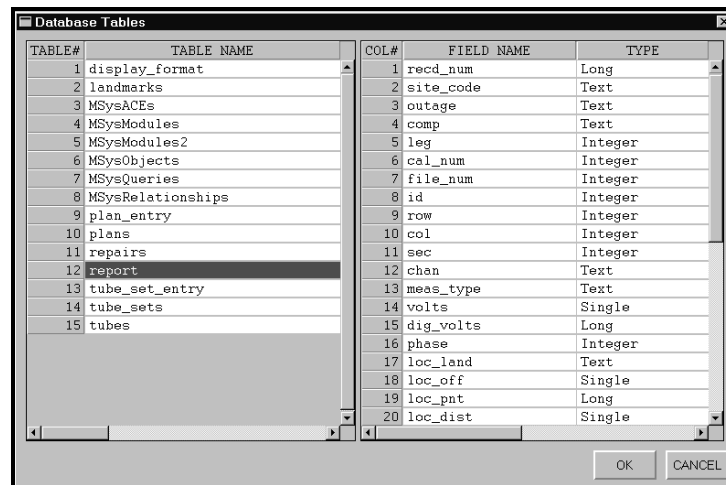

Figure 3-115. Database Tables Window
- **Show Tables:** For successful queries, a good understanding of the database structure is needed. What tables are present, the fields within those tables and how all this is connected. Show Tables calls up the Database Tables Window that gives a concise picture of the database architecture. As seen in Figure 3-115, on the left of the window are listed all the tables that make up the database. When you select a table a list of fields for that table will appear on the right. In Figure 3-115 the *report* table is selected and the fields comprising the *report* table are listed on the right.